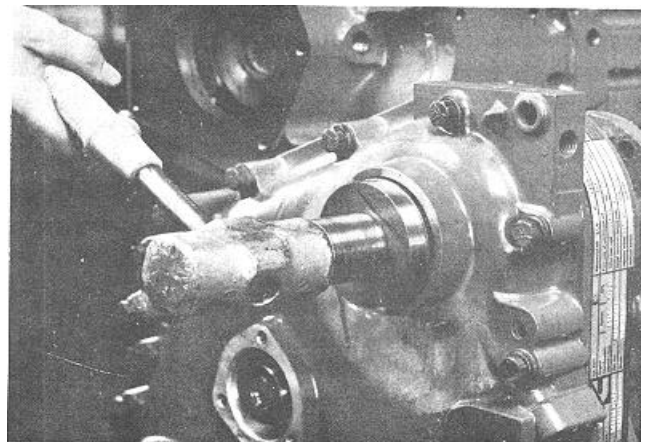

Fig. 14-40 (N114267). Install The Oil Seal For The Accessory Drive.
7. Install a new accessory drive oil seal into the gear cover. Use the Part No. ST-1173 Mandrel to install the seal, Fig. 14-40.